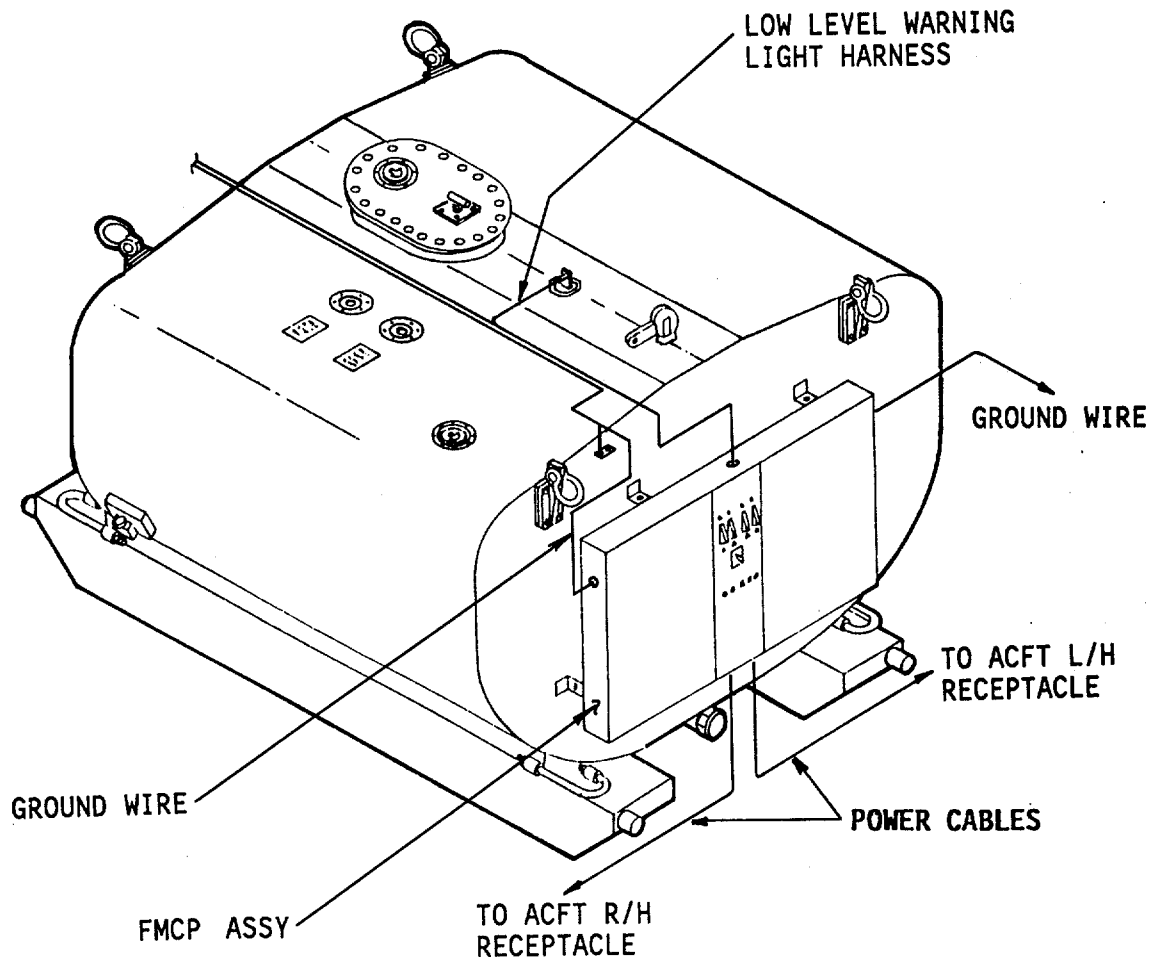

Figure 2-4. Fuel Management Control Panel Installation
(1) Install FMCP to forward end of No. 1 tank at mounting brackets, Figure 2-4.
(2) Connect power cables to bottom receptacles of FMCP. Long power cable should connect to R/H side of aircraft receptacle. Route both cables under tanks 1 and 2, with long cable installed over fuel manifold. Connect cables to top 15 amp utility receptacles on L/H and R/H side at station 260.
f. Connect No. 1 tank low level warning light harness to tank, Figure 2-4.